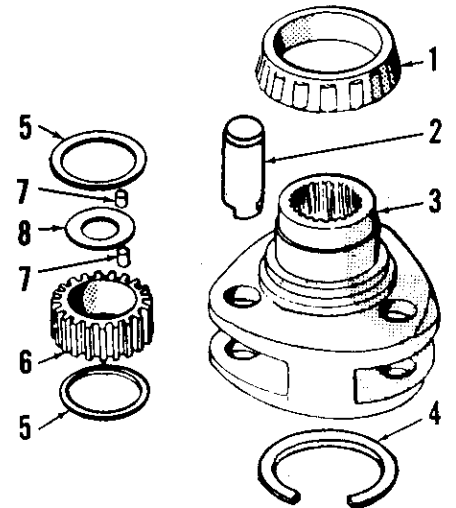
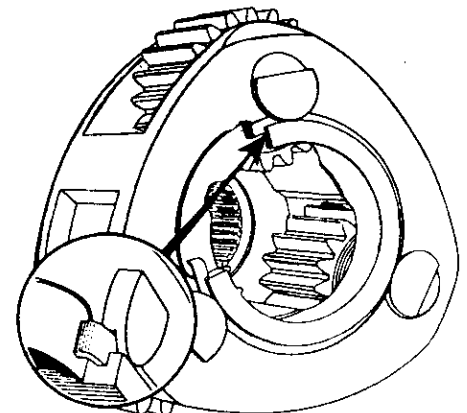

Fig. 335—Exploded view of late type planetary unit. Refer to Fig. 336 for disassembly techniques.
Fig. 336—Planet pinion shafts are retained by "C" ring as shown. Bend ends of ring into depression in carrier (Inset) to secure the ring.
Fig. 334—Pressing the three planetary pinion shafts, retainer and bearing from early type planetary carrier. A flat plate and three pins of equal length are used to press shafts and retainer evenly. On late models, refer to Figs. 335 & 336.
335. Planet pinion shafts (2) are a slip fit in carrier (3) and are retained by "C" ring (4) which rotates into a slot in carrier and shafts as shown in Fig. 336. To disassemble the unit, straighten end of "C" ring and rotate ring until shafts are free. Withdraw shaft and slide out pinion and bearing, being careful not to lose any of the loose needle rollers (7—Fig. 335). Assemble by reversing the disassembly procedure. Bend the ends of "C" ring into depression in carrier as shown in Inset, Fig. 336. Planet pinions and bearings are interchangeable in old and new units.